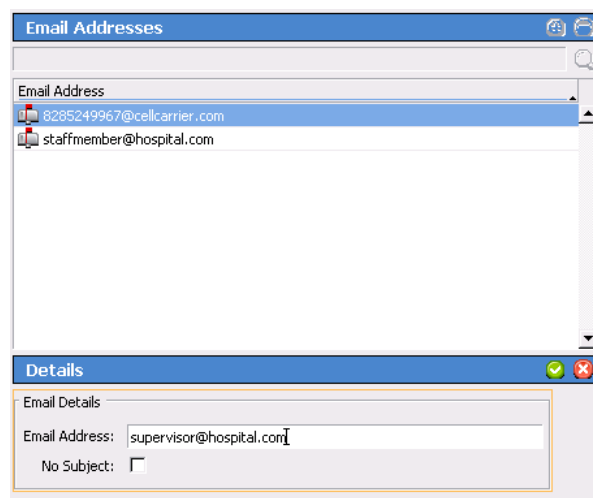

Figure 38: Add Email Addresses
6. To add email addresses to receive reports and/or system events, click the **Add** button in the **Email Addresses** pane shown in Figure 38.